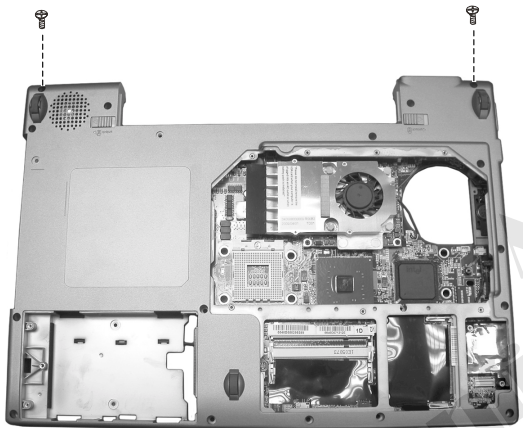

Figure 2-25 Remove the two screws
2. Remove the two screws fastening the housing. (Figure 2-25)